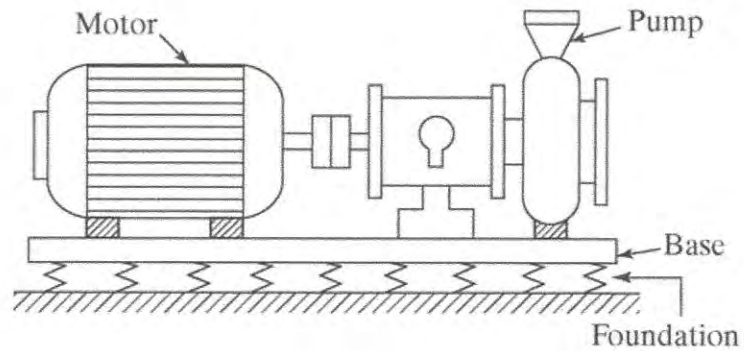

Figure Q4
- Q4** Company ABC that manages wastewater treatment plant in Sri Gading, Johor has decided to replace the foundation supporting the motor-pump system with two springs as shown in **Figure Q4**. Thus, the manager of the company ABC has assigned an engineer to lead the task of studying the vibration of the system using two-degrees-of-freedom system. By considering the parameters of motor-pump system as a rigid bar of having mass, m and mass moment of inertia, J_0 about the center of gravity (C.G) with two springs (k_1 and k_2) at their ends;